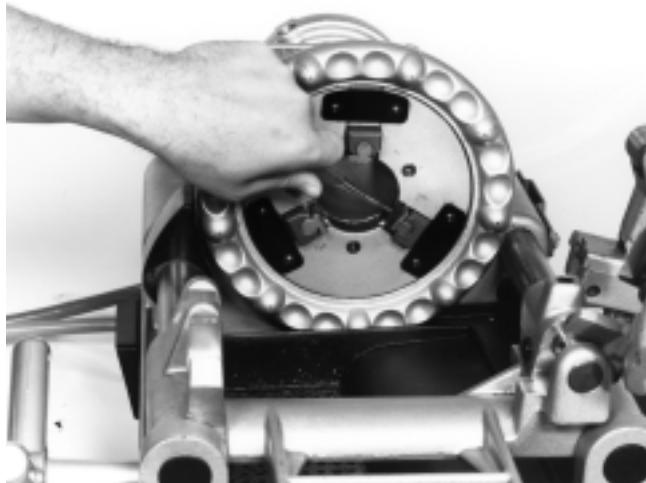

Figure 19 – Replacing Jaw Inserts
1. **To remove insert** — place punch into spring detente slot of jaw and push down. (See *Figure 19*.)